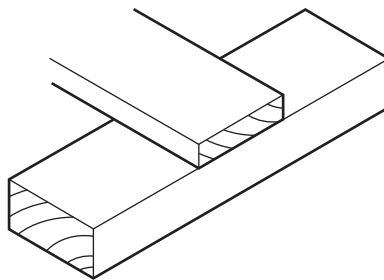

Fig. 2.1
- 2 Fig. 2.1 shows two pieces of softwood that will be joined using panel pins.
- (a) Add sketches to Fig. 2.1 to show how the two pieces of softwood could be joined by means of ‘staggered’ nailing. [2]